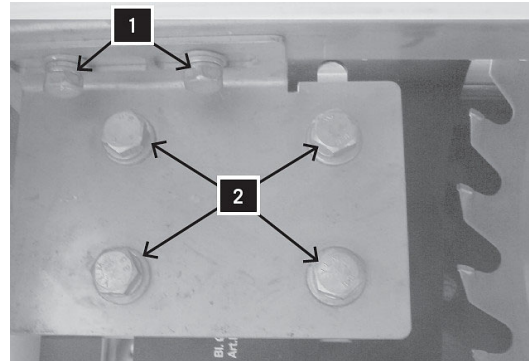

Fig. 15: Adjusting the splitting wedge
- Loosen two hexagon head screws on both sides (Pos.1, Fig. 15),
- Slightly tighten the hexagon head screws (Pos.1, Fig. 15),
- Align splitting wedge flush to saw blade and tighten the four hexagon screws (Pos.2, Fig. 15) again,